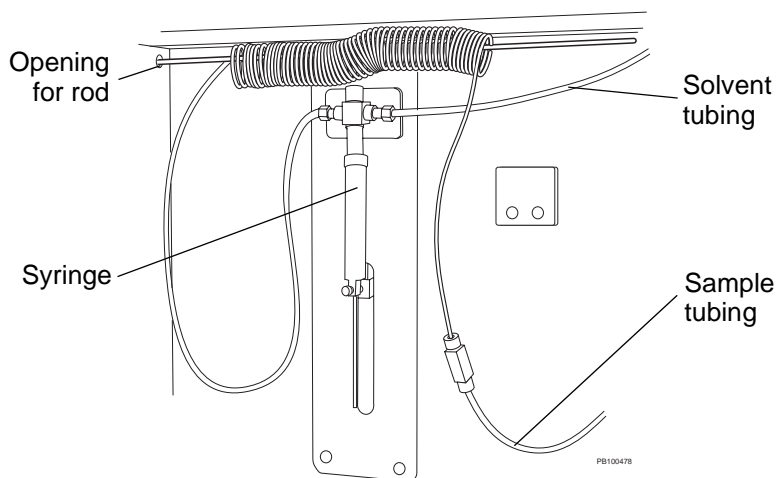

Figure 3-27 Installing Coiled Tubing
1. Install the rod and coiled tubing above the syringe by inserting the ends of the rod in the openings as shown in Figure 3-27. (The ends of the rod are identical).